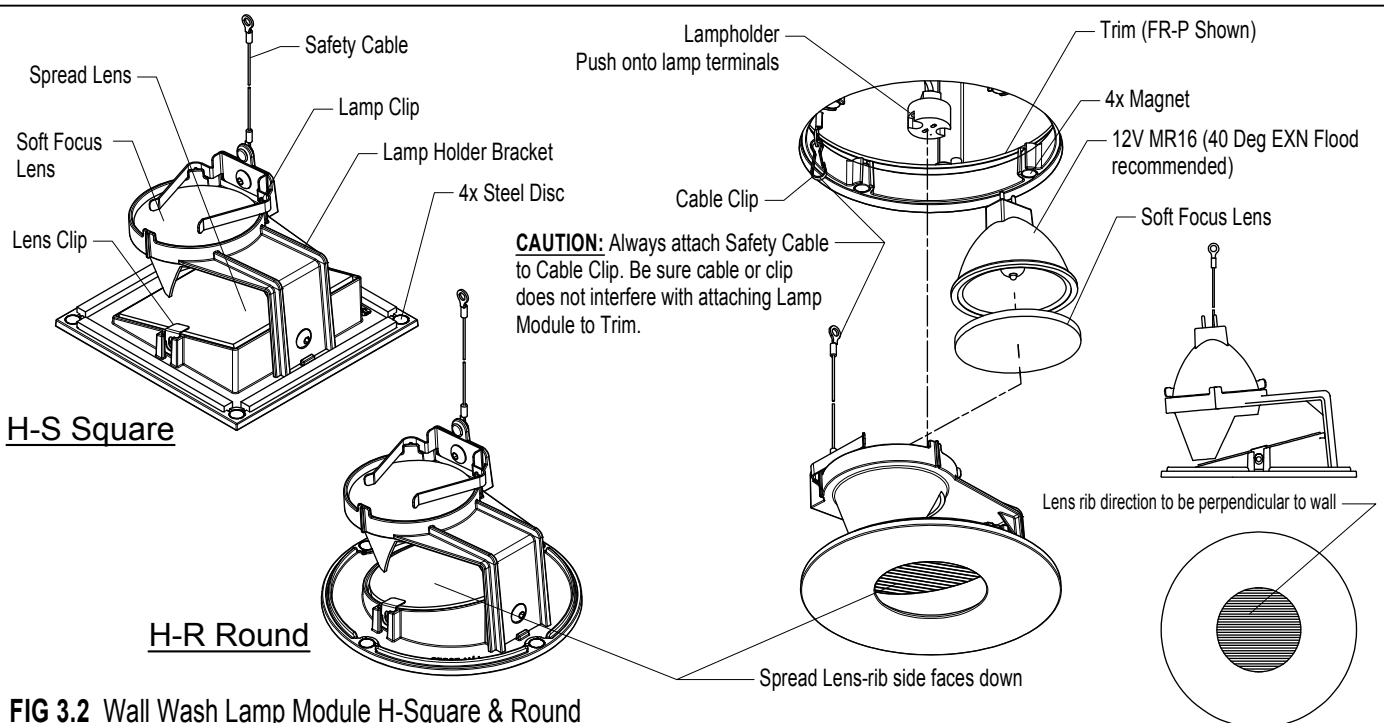

FIG 3.2 Wall Wash Lamp Module H-Square & Round
STEP 1 Remove Lamp Module from Trim & install or replace Lamp & Lens into Clip. Then push Lampholder into Lamp pins - Fig 3.2.
H Lamp Module: Install in Trim oriented so light washes desired wall - Fig 3.2.